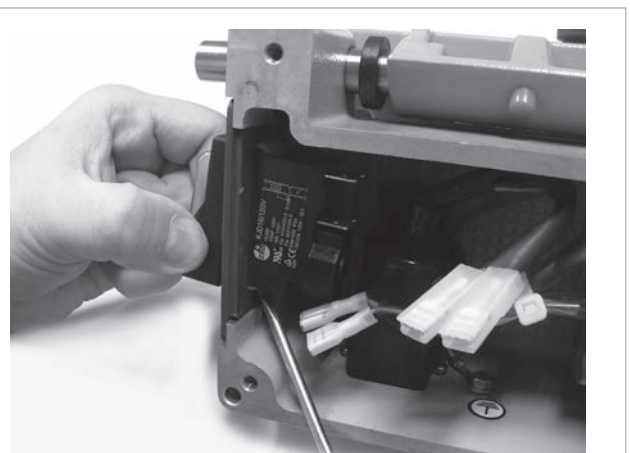

Fig. 37
- 3) Remove the switch making pressure on the tabs with a screwdriver (Fig. 37).